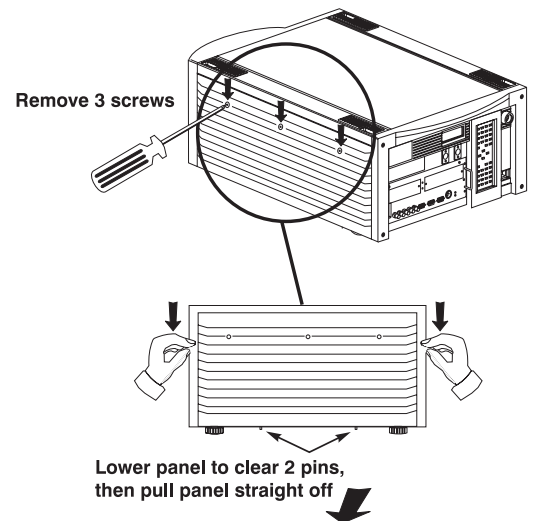

Figure 4.9. Remove the right side panel
- See Figure 4.9. Remove the 3 screws securing the projector’s right side panel.